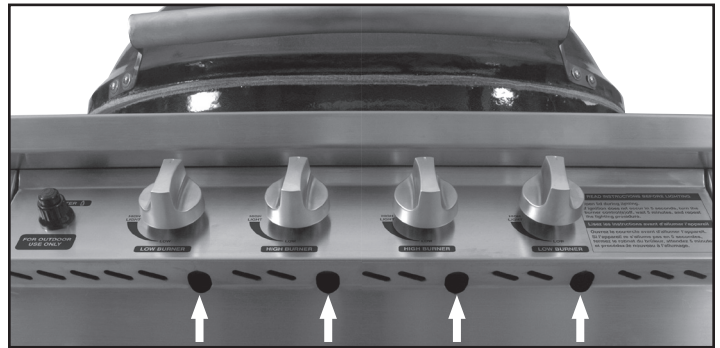

Fig. 2 - Manual lighting
**CAUTION:** Always wait five (5) minutes for gas to clear after any unsuccessful lighting attempt.
2. Insert either a burning long-barrel butane lighter or a burning long-stem match through a hole in the control panel opening to the top of the lighting tube (Fig. 2). For backburners, hold the flame against the surface of the backburner.
4. If the burner does not light within five (5) seconds of turning the control knob, **immediately depress the knob and turn the valve to OFF**. **WAIT FIVE (5) MINUTES** before repeating steps 2 through 4 of the **MANUAL LIGHTING** instructions.